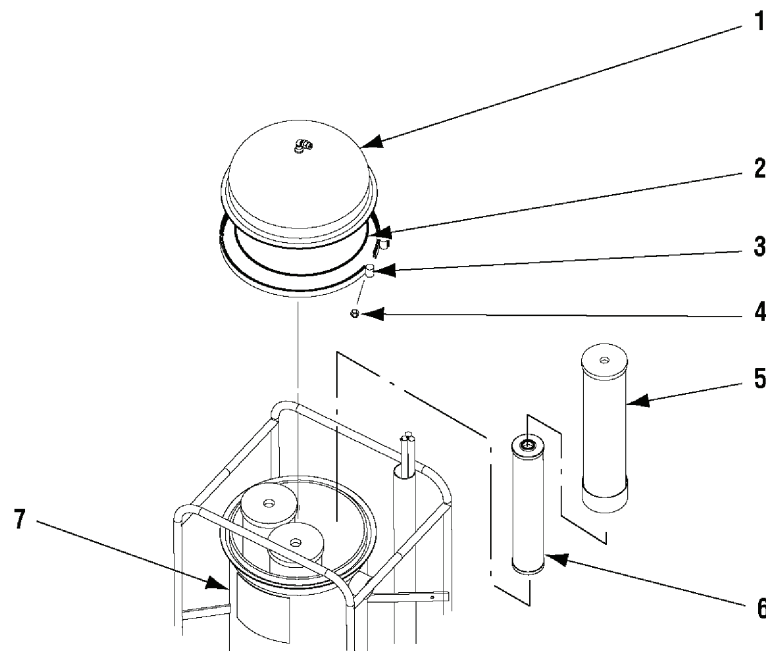

Figure 1. 50- and 100-GPM Unit Element Replacement
Coalescer, 50-GPM (Item 5, Figure 1, WP 0019 00)
1. Unscrew self-locking nut (figure 1, 4) on retaining band (3) and remove retaining band (3) and head assembly (1). Discard self-locking nut (4).
2. Remove o-ring (2) from vessel (7).
3. Press canister (5) down and turn counter-clockwise approximately 120 degrees to disengage locking mechanism.